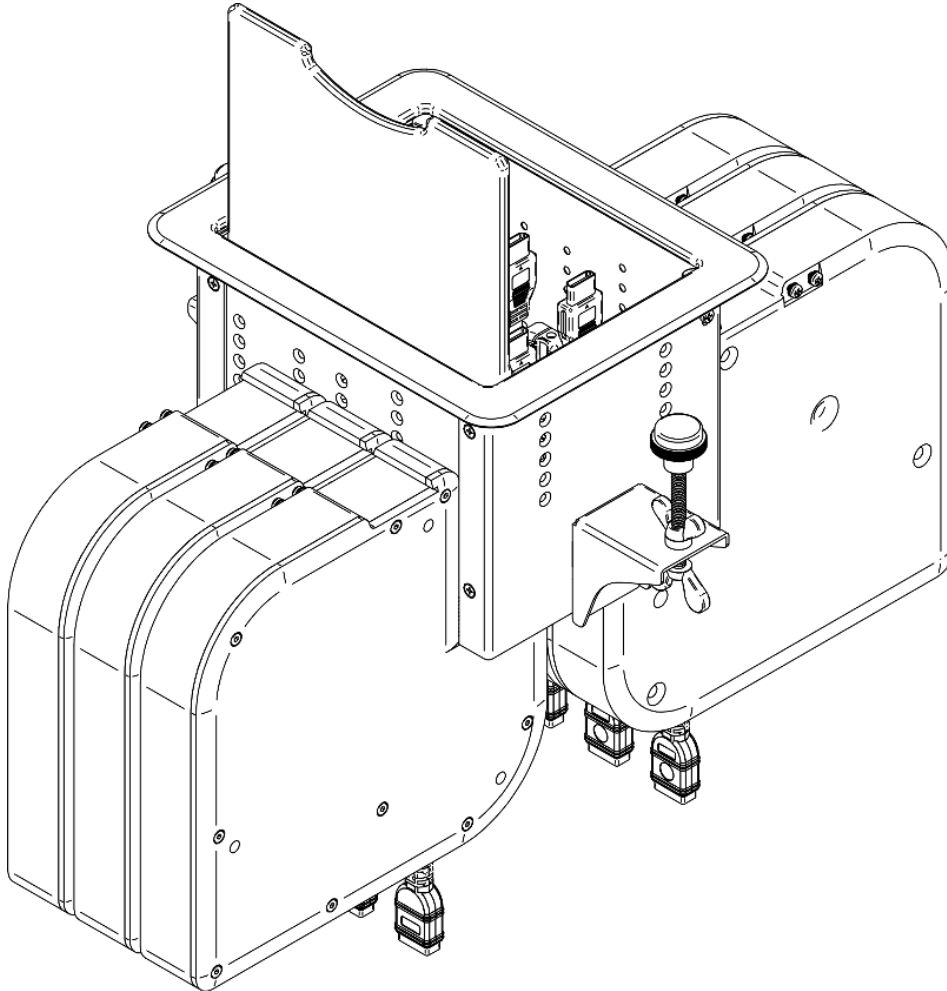

Figure 8: Attaching Several KRT-4 Units to TBUS with Regular (Non-Retractable) Cover
- For TBUS units with a regular cover (for example, the Kramer **TBUS-1AxI**), attach the **KRT-4** units side-by-side to the front and rear side of the TBUS enclosure (Figure 8).